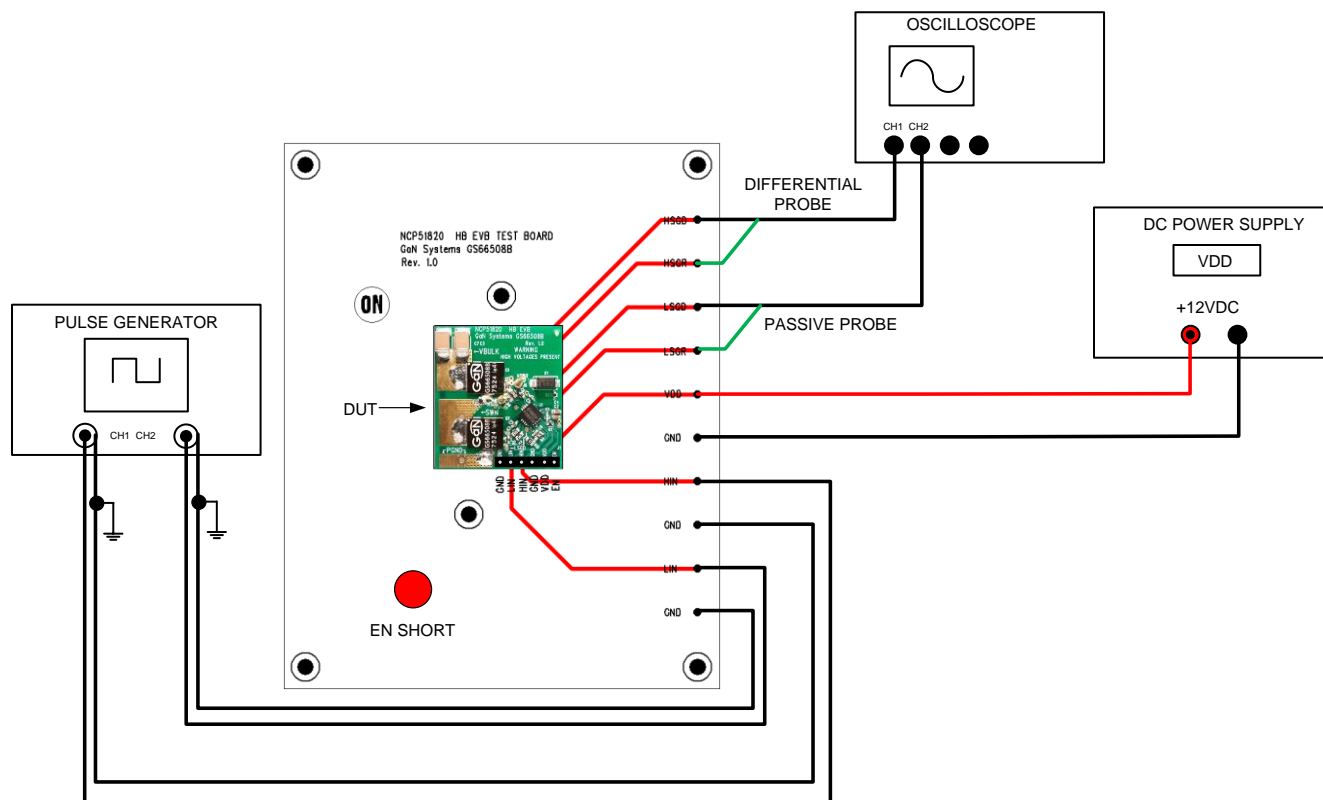

Figure 4. Test setup connections for NCP51820 GaN DRIVER EVB
- 5) Connect test equipment to Test Board as shown in Figure 4. Connect the passive scope probe to LSGD and LSGR and differential scope probe to HSGD and HSGR as shown in Figure 4.